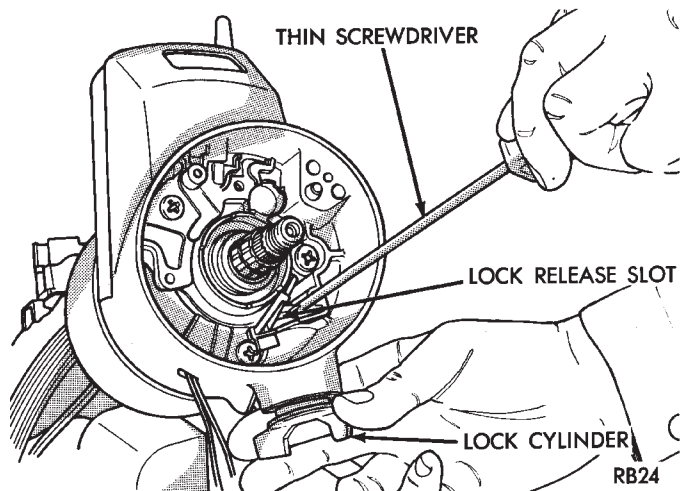

Fig. 6 Key/lock Cylinder Removal
(21) Turn ignition key/lock cylinder to the ON position. Insert a thin screwdriver into the slot adjacent to the switch attaching screw boss (right-hand slot). Depress the spring latch located at the bottom of the slot to release the key/lock cylinder. Remove the cylinder (Fig. 6).